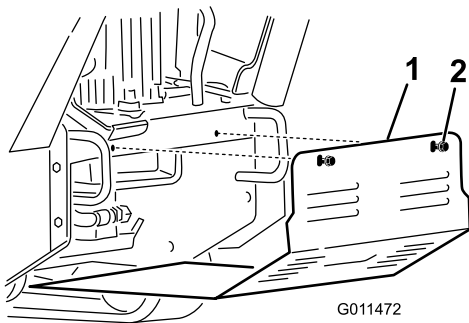

Figure 25
3. Loosen the 2 bolts securing the bottom shield sequentially until the shield is free (Figure 25).
5. To install the shield before operating the machine, slide the bottom shield into the machine so that it rests on all 4 tabs and secure it with the 2 bolts you loosened previously (Figure 25).